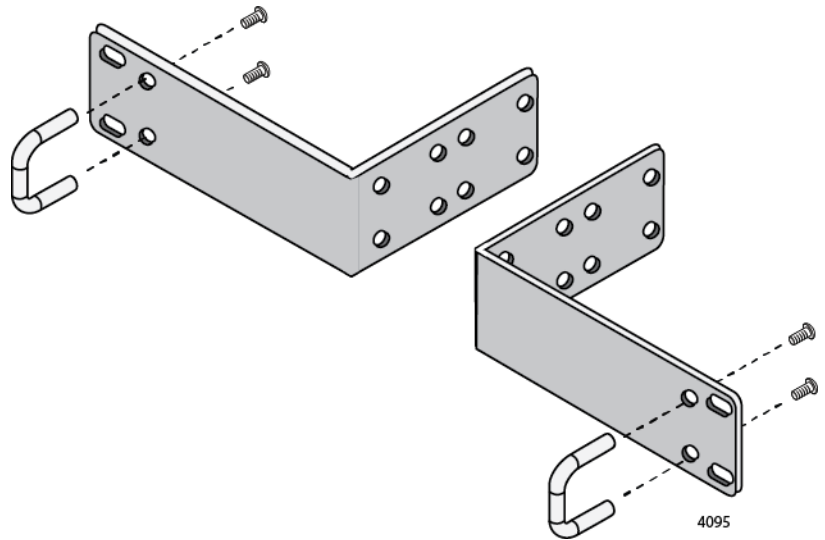

Figure 40. Attaching the Handles to the RKMT-J14 Brackets
1. Attach the two handles to the RKMT-J14 Brackets using the four M3x6mm screws included with the switch. Refer to Figure 40 on page 81.